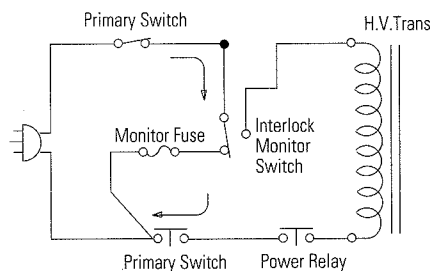

Fig. 3
- (F) The power control relay is turned on intermittently by the touch control circuit, when the oven is set at any power except for full power. The touch control circuit controls the ON/OFF time of the power control relay in order to vary the output power of the microwave oven from Low to "Full" power. One complete ON/OFF cycle of the power control is 30 seconds.
- (G) The cooking time shown on the display start to count down.
- (A) The primary interlock switch is opened to cut off the primary voltage of the high voltage transformer to stop microwave oscillation.
- (B) The door sensing switch is opened to give the door open information to touch control circuit. The main relay stays on, the power control relay turns off and the display stops counting down.
- (C) The fan motor and turn-table motor are stopped by operation of the primary or secondary interlock switch. But the oven lamp lights the inside of the oven again until the door is closed.
- (D) Upon opening the door, the contacts of primary interlock switch open and the contacts of interlock monitor switch close the short circuit.
- (E) If the contacts of primary interlock switch do not function properly, the monitor fuse blows out due to the large current surge caused by the monitor switch activation, and this in turn stops magnetron oscillation. (Fig. 3)